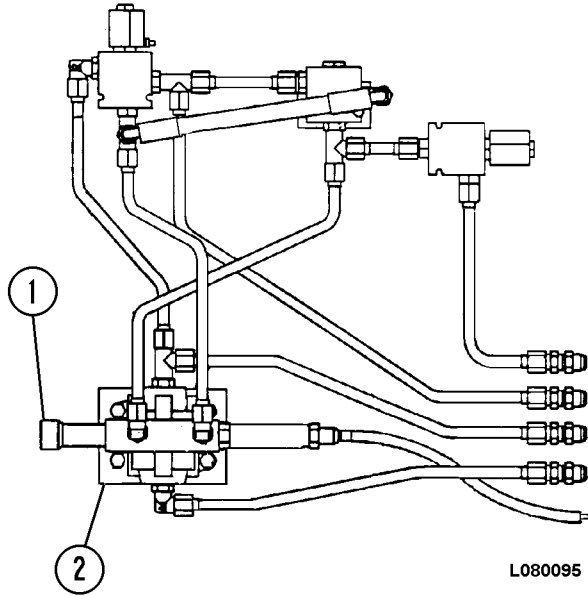

FIGURE 30-4. POWER DOWN RELIEF VALVE
4. Move hoist control lever (1, Figure 30-4) to POWER UP position (4) and release the lever.
Figure 30-4 shows the quick disconnect fittings on a hoist manifold for connecting the hoist circuits between trucks.